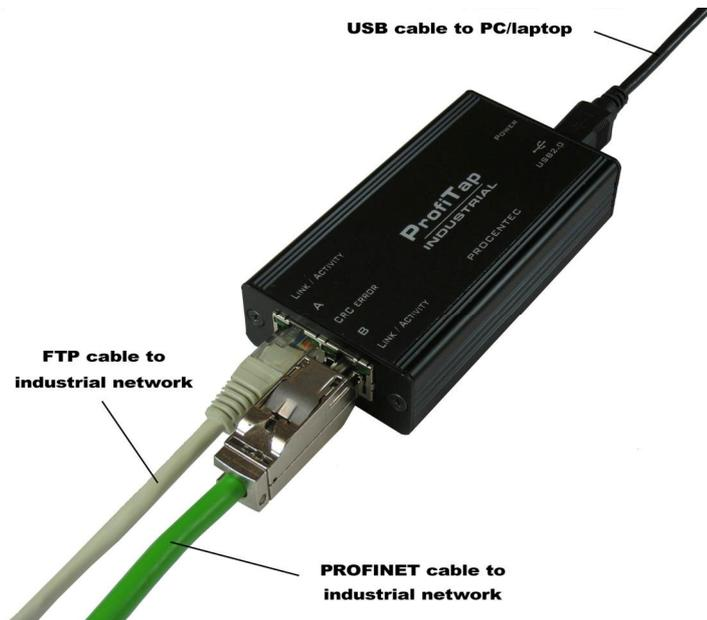

Figure 2: cable connections
2.1.2. Connect ProfiTap to the network using Category 5 FTP or STP (Foiled or Shielded Twisted Pair) cables, as shown in Figure 2.